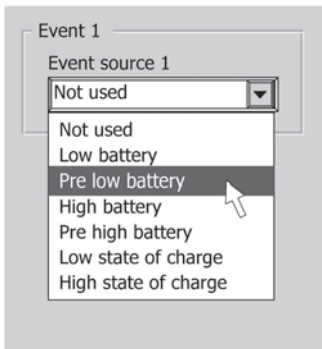

Figure 14
- 3 Click on the drop box and select the event at the command source that should be the trigger for an action (Example: Pre low battery) (figure 14).